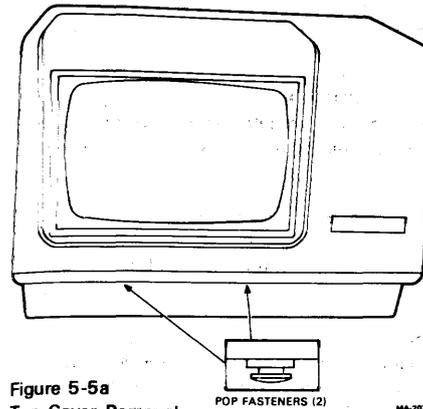

Figure 5-5a
3. With a small blade-type screwdriver release the two front pop fasteners located under the front lip (Figure 5-5a).